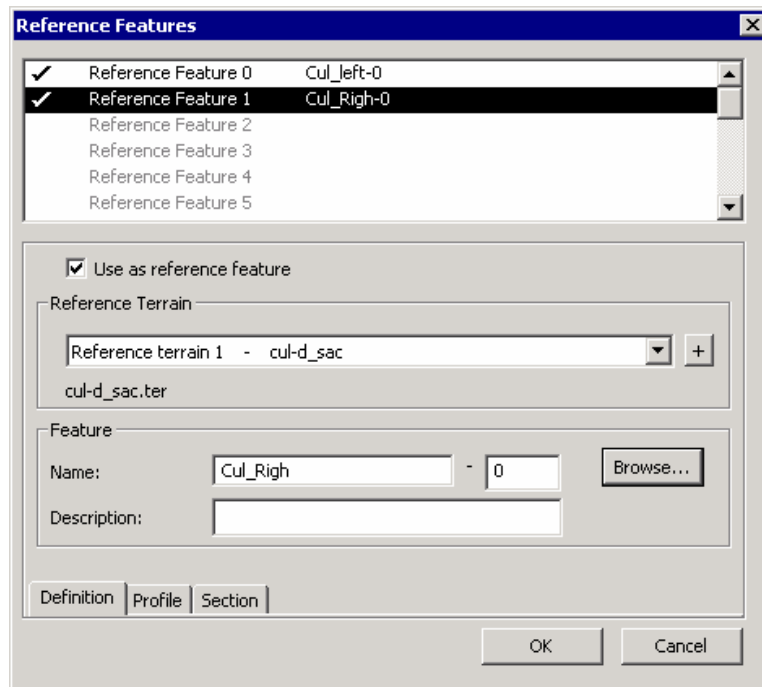

Figure 5.35: Reference Feature Dialog
4. To define the *Reference Features* click on the *Features button*. The *Reference Features* dialog box will appear as shown in Figure 5.35.